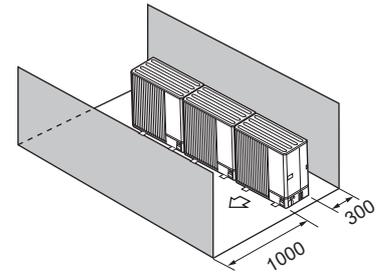

Fig. 1-15
- (4) Obstructions or closed surfaces at front and rear only (Fig. 1-15)